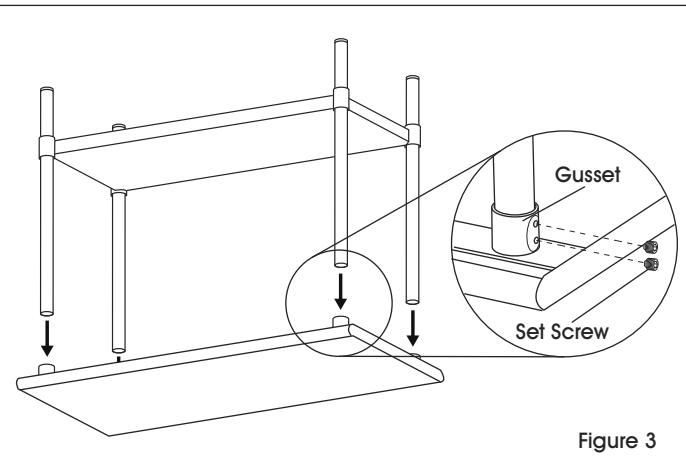

Figure 3
- Flip tabletop over. Insert leg and shelf assembly into tabletop gussets. Secure legs to tabletop with set screws using 5/32" Allen wrench. (See Figure 3)